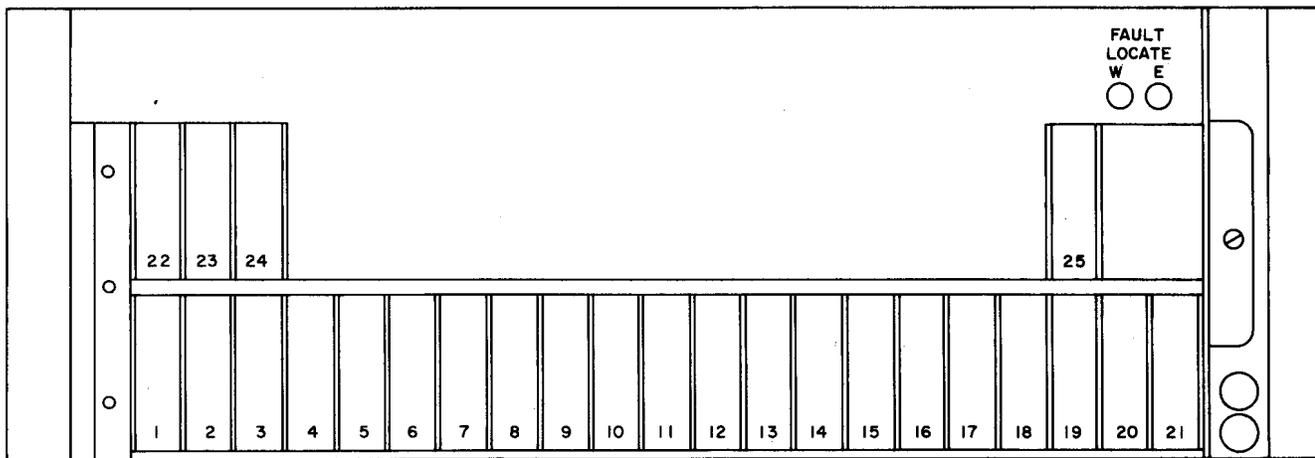

Fig. 1—J98710U Express Office Repeater Panel (EORP)
**1.01** This section describes the J98710U Express Office Repeater Panel (EORP) (Fig. 1) and its initial lineup, testing, and maintenance. The J98710U EORP is a panel of line repeaters which are used for through-connections at an intermediate central office (CO) in T1 or T1 Outstate (T1/OS) systems.